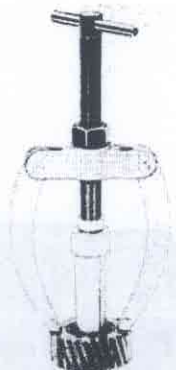

Fig 46-141 Removing the races
10. Remove the roller bearings and the shims from the gear. If necessary pull out the outer races with a standard puller, Fig. 46-141.